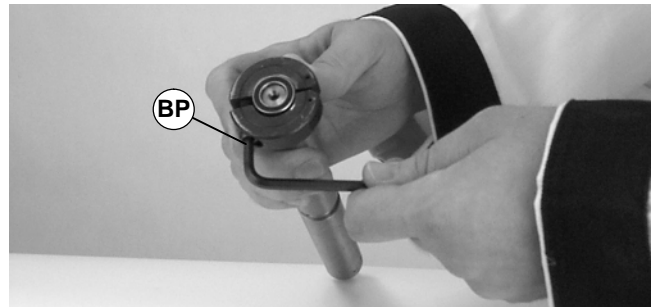

Figure 47
2. Using 3/16" hex key wrench (BP of Figure 47), tighten tool.